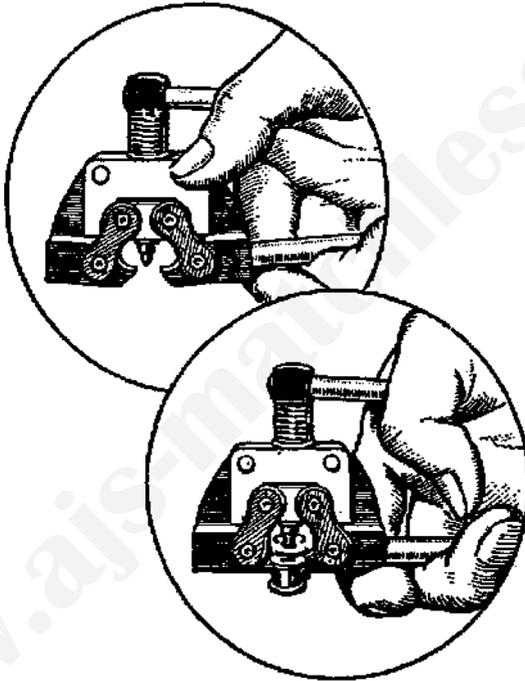

FIG. 21.—METHOD OF USING THE RIVET EXTRACTOR.
- (1) Turn screw anti-clockwise to permit the punch end to clear the chain rivet.
- (2) Open the jaws.
- (3) Pass jaws over chain and rest on a chain roller, free of chain-link plates (*see* Fig. 21).
- (4) Turn screw clockwise until punch contacts with and pushes out rivet end through chain outer link plate. Unscrew punch, withdraw extractor and repeat complete operation on the adjacent rivet in the same chain outer link plate. The outer plate is then free and the two rivets can be withdrawn from the opposite side with the opposite plate in position. *Do not use the removed part again.*